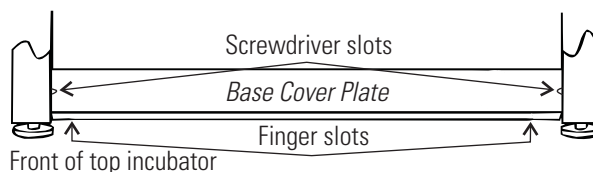

Figure 1-2. Remove Base Cover Plate
1. Designate one incubator to be the top unit and the other as the bottom unit. Remove the base cover plate from the top unit using the finger holes in the base or using a slotted screwdriver (Figure 1-2).